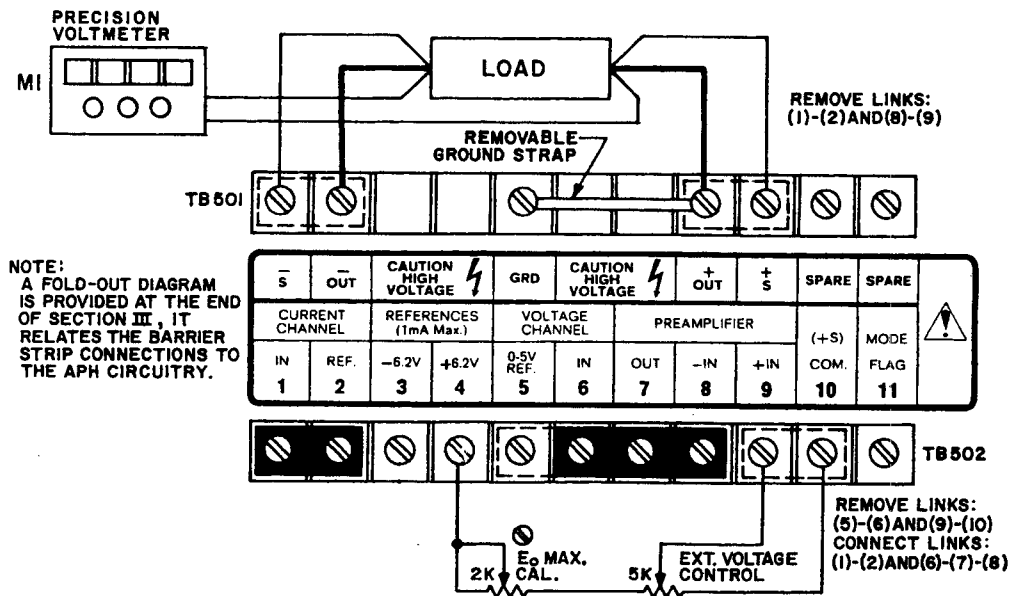

FIG. 3-3 CONNECTIONS FOR REMOTE APH OUTPUT VOLTAGE CONTROL WITH A POTENTIOMETER.
3-13 Since the REFERENCE potential is nominally 6.2 volts, a resistive divider is used across it, consisting of the EXTERNAL VOLTAGE CONTROL and the CAL. rheostat. The CAL. rheostat enables us to adjust the control voltage to exactly 5 volts across the EXTERNAL VOLTAGE control. The wiper of the EXTERNAL VOLTAGE CONTROL potentiometer is now connected to the non-inverting PRE-AMPLIFIER input so that the control voltage is repeated at its output, which is in turn connected to the MAIN VOLTAGE AMPLIFIER INPUT. (See connecting diagram FIG. 3-3 and fold-out diagram FIG. 3-15.)
- 1) Connect the potentiometer (EXTERNAL VOLTAGE CONTROL), the calibrating rheostat ( $E_o$  CAL.), the LOAD and the OUTPUT VOLTMETER (M1) to the APH as shown in FIG. 3-3. FOR INTERCONNECTION DETAILS AND PRECAUTIONS, TURN TO THE "WARNING" PARAGRAPH ON PAGE 3-4.